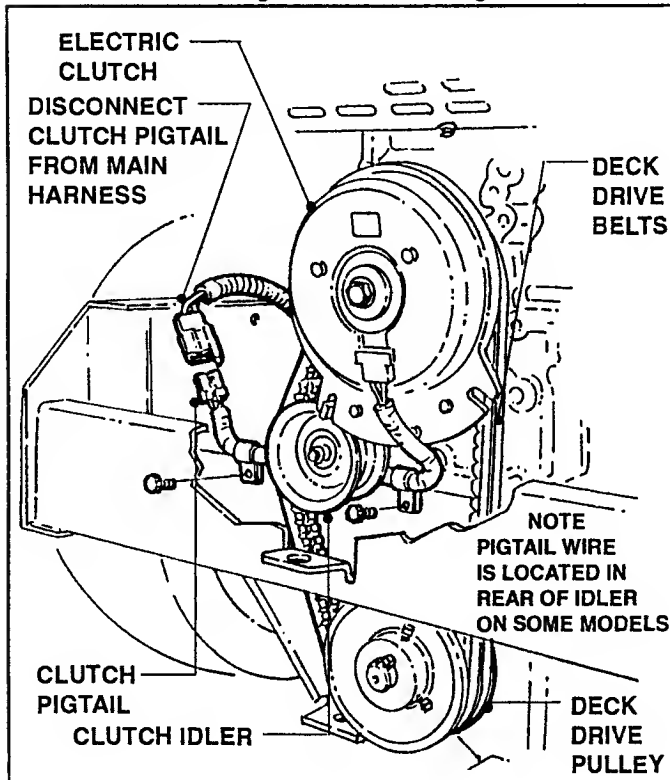

FIGURE 8.3
1. Disconnect Wiring Pigtail between Clutch and Main Wiring Harness. See Figure 8.3.